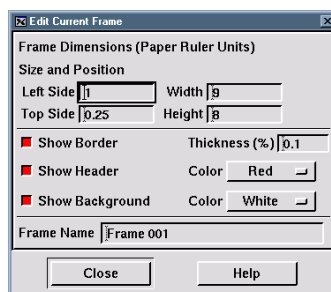

Figure 2-1. The Edit Current Frame dialog in Motif.
1. From the Frame menu, choose Edit Current Frame, or double-click on the header or border of the current frame. The Edit Current Frame dialog appears, as shown in Figure 2-1.